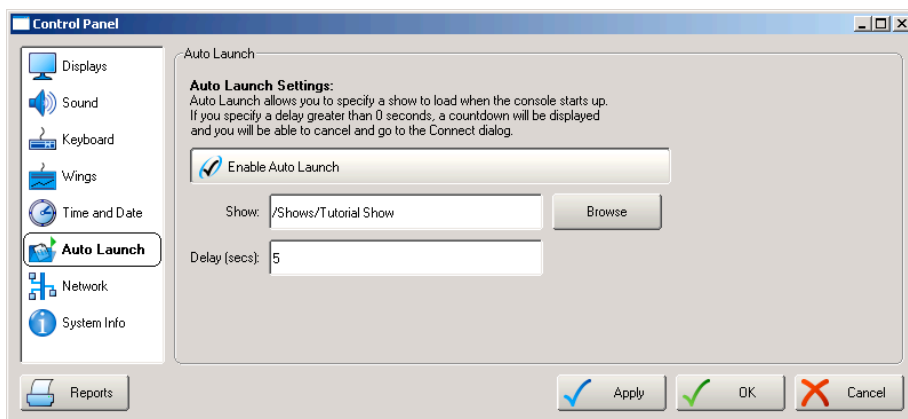

Figure 13.16. The Auto Launch pane of the Control Panel
1. Setup → Control Panel → Auto Launch : see *Figure 13.16, “The Auto Launch pane of the Control Panel”*.